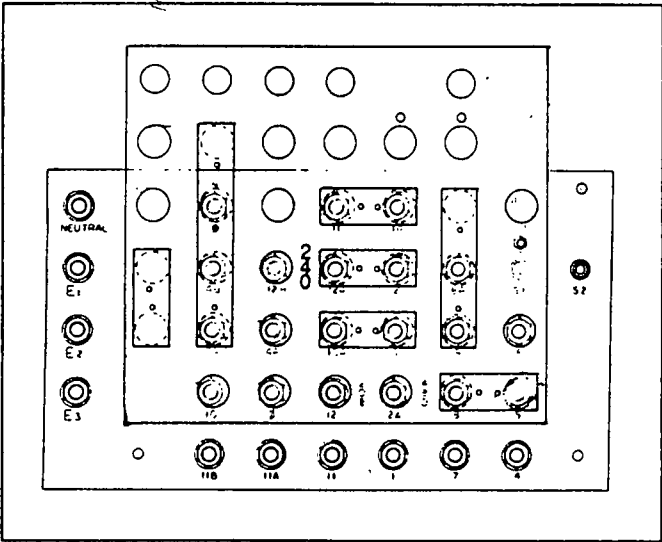

Figure 4. High Voltage Board- 120/240 Volts Selected
- Figure 4 shows the high voltage board with 120/240 volts, 1 or 3-phase selected.